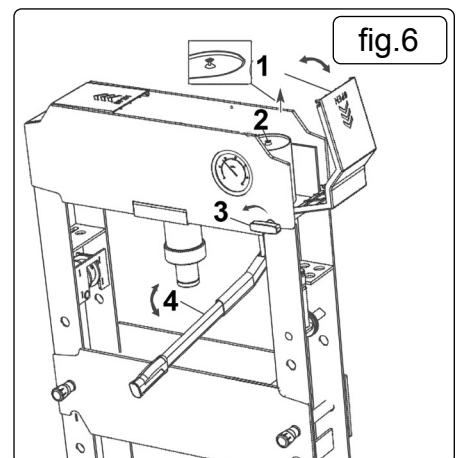

fig.6
5.1. BLEED HYDRAULIC CIRCUIT fig.6